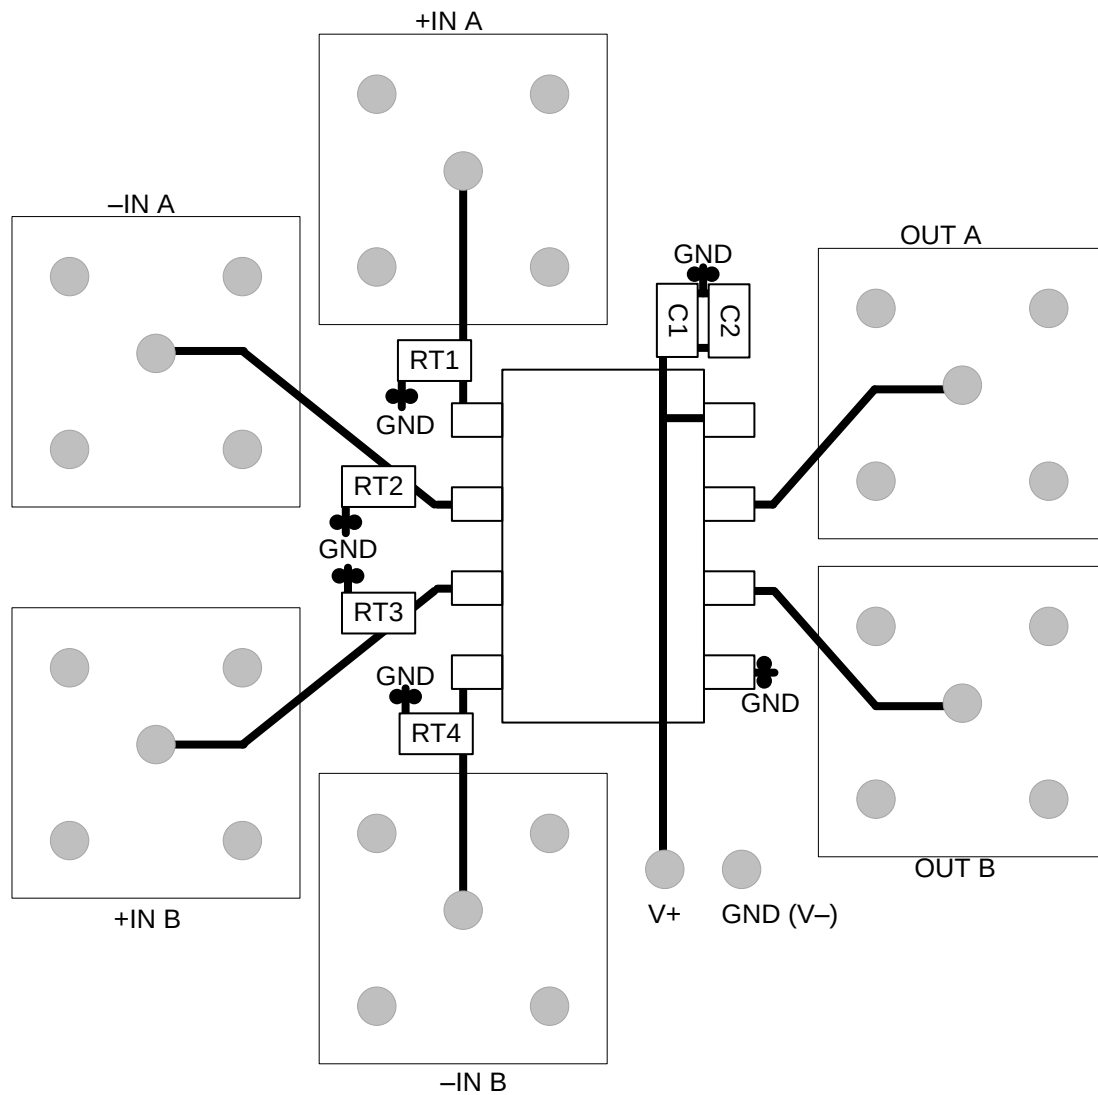
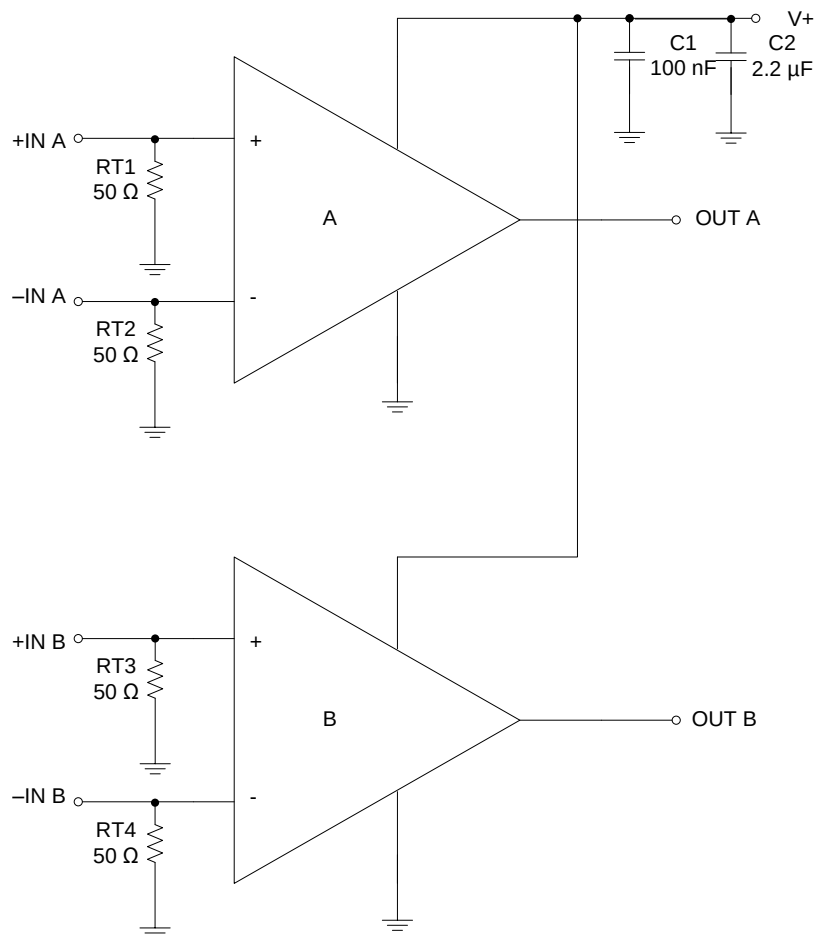

Figure 21. TLV3502-Q1 Sample Layout
Figure 22. Schematic for Figure 21
- Figure 21 shows an evaluation layout for the TLV3502-Q1 SOT23-8 package. The device is shown with SMA connectors bringing signals on and off the board. RT1, RT2, RT3 and RT4 are termination resistors for + IN A, + IN B, -IN A, and -IN B respectively. C1 and C2 are power-supply bypass capacitors. Place the 0.1- μ F capacitor closest to the comparator. The ground plane is not shown, but the pads that the resistors and capacitors connect to are shown. Figure 22 shows a schematic of this circuit.